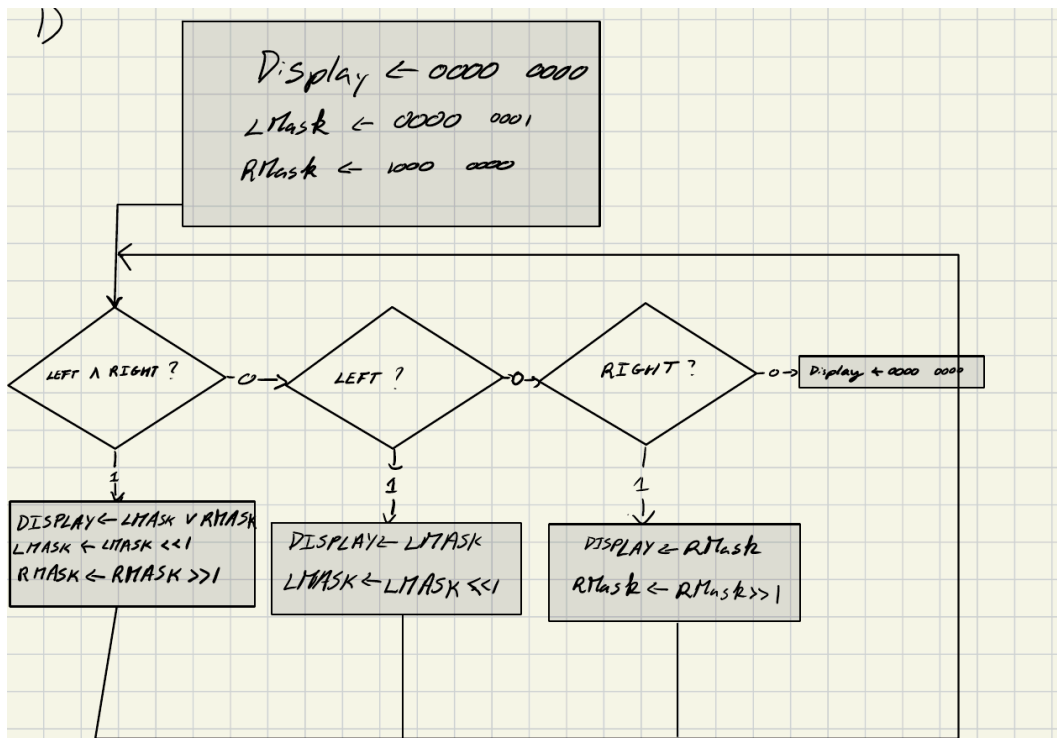
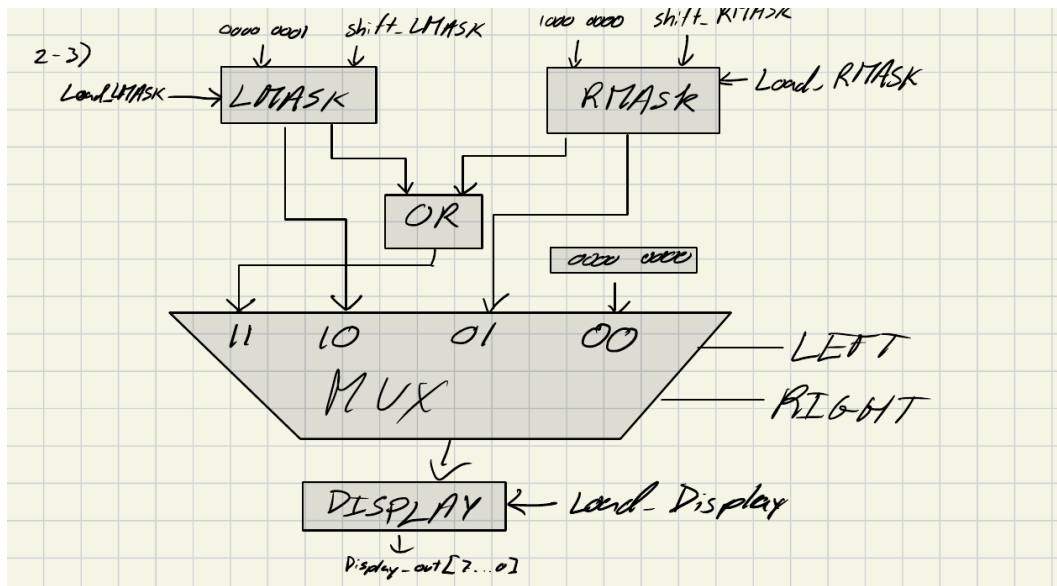

Figure 1: ASM chart
Figure 2: Datapath
The ASM chart in Figure 1 also serves as the flowchart of the solution.
Each RTN statement of Figure 1 is replaced by the control signals that perform it on the datapath of Figure 2, and each decision box tests the LEFT and RIGHT status signals. S0 asserts Load_Display, Load_LMASK and Load_RMASK. S1 asserts shift_LMASK, shift_RMASK and Load_Display. S2 asserts shift_LMASK and Load_Display, S3 asserts shift_RMASK and Load_Display, and S4 only asserts Load_Display (the mux already selects 00000000). Unlisted signals are 0.
- **mux (mux4_nBit):** sel(1) = Left and sel(0) = Right, with inputs 00000000, RMASK, LMASK and LMASK OR RMASK, as in Figure 2.